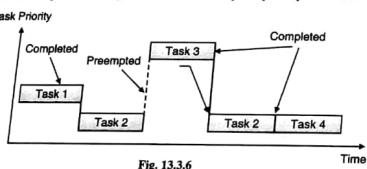

Fig. 13.3.6
- Thus the higher priority task will get the CPU as soon as it enters into the ready to run state, and this higher priority task will enter into the running state. The Fig. 13.3.6 shows an example of pre-emptive scheduling.